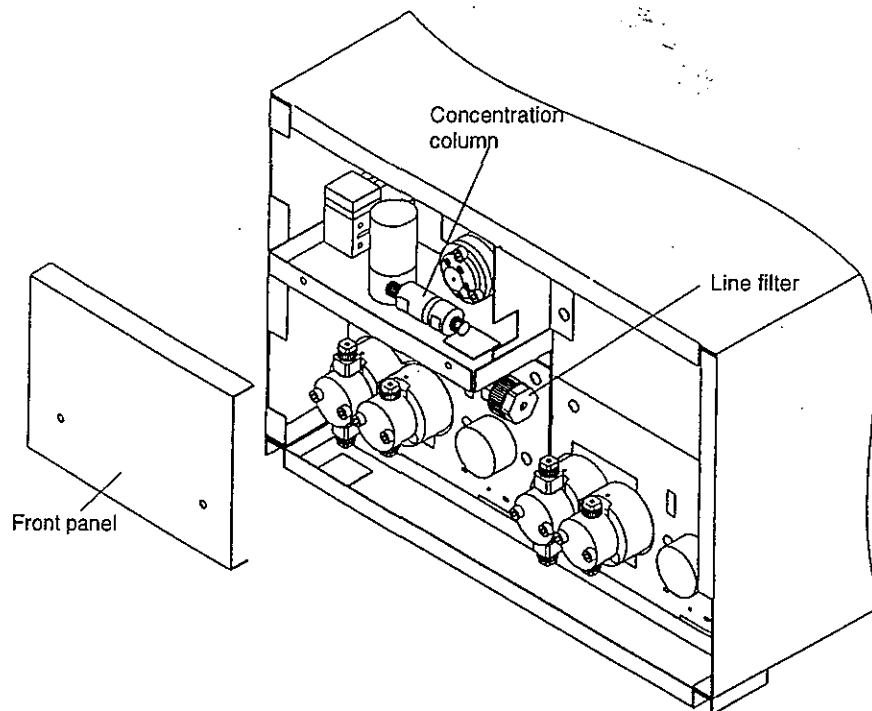

Figure 9.12 Removing the front panel
- (1) Open the front door of the Pi500, and remove the front panel located above the EL pumps. See Fig. 9.12.